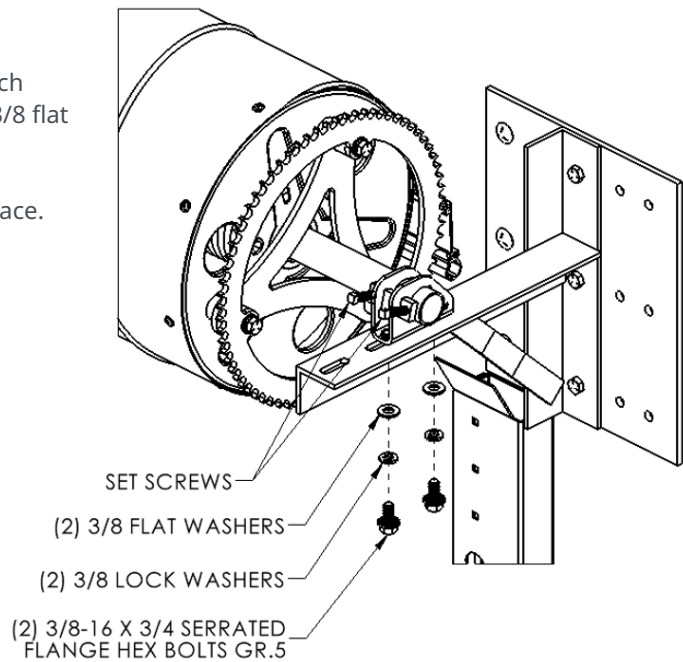

figure 15: Electric Operator Install
- ✦ Attach Stamped Axle Support to T-bracket using (2) each 3/8-16 x 3/4 serrated hex bolts, 3/8 lock washers and 3/8 flat washers. See Figure 15.